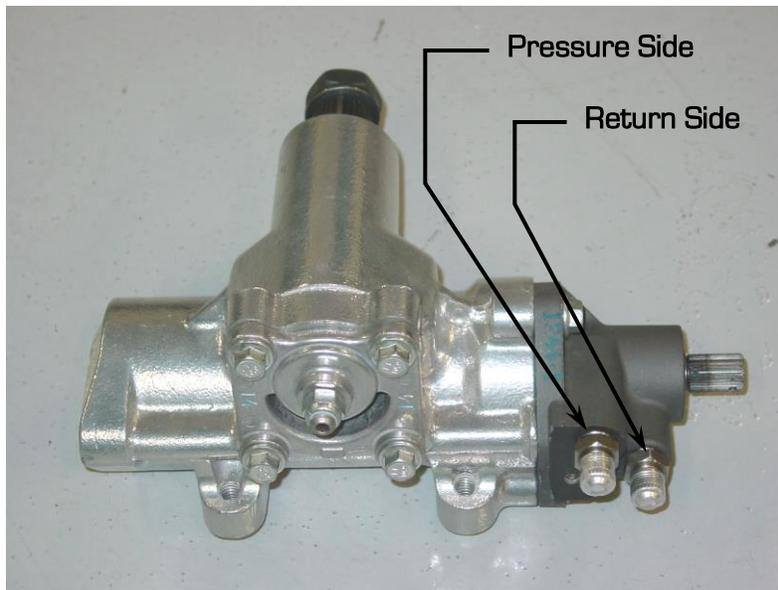

Figure 3 - Pressure & Return Ports
9. Attach the power steering hoses to the steering gear. Make sure the pressure and return hoses are installed into the correct ports. Both ports are O-ring type. The pressure port fitting size is M18 x 1.5mm and the return port fitting size is M16 x 1.5mm (Figure 3). Detroit Speed has a full line of hoses and fittings to complete your power steering system.